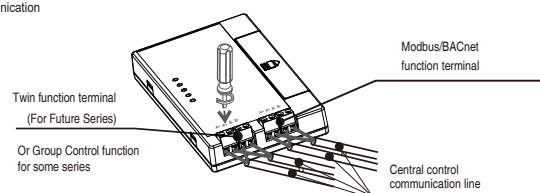

Fig. 2 Connection of central control communication line
② Connection of central control communication line, as shown in Fig. 2.